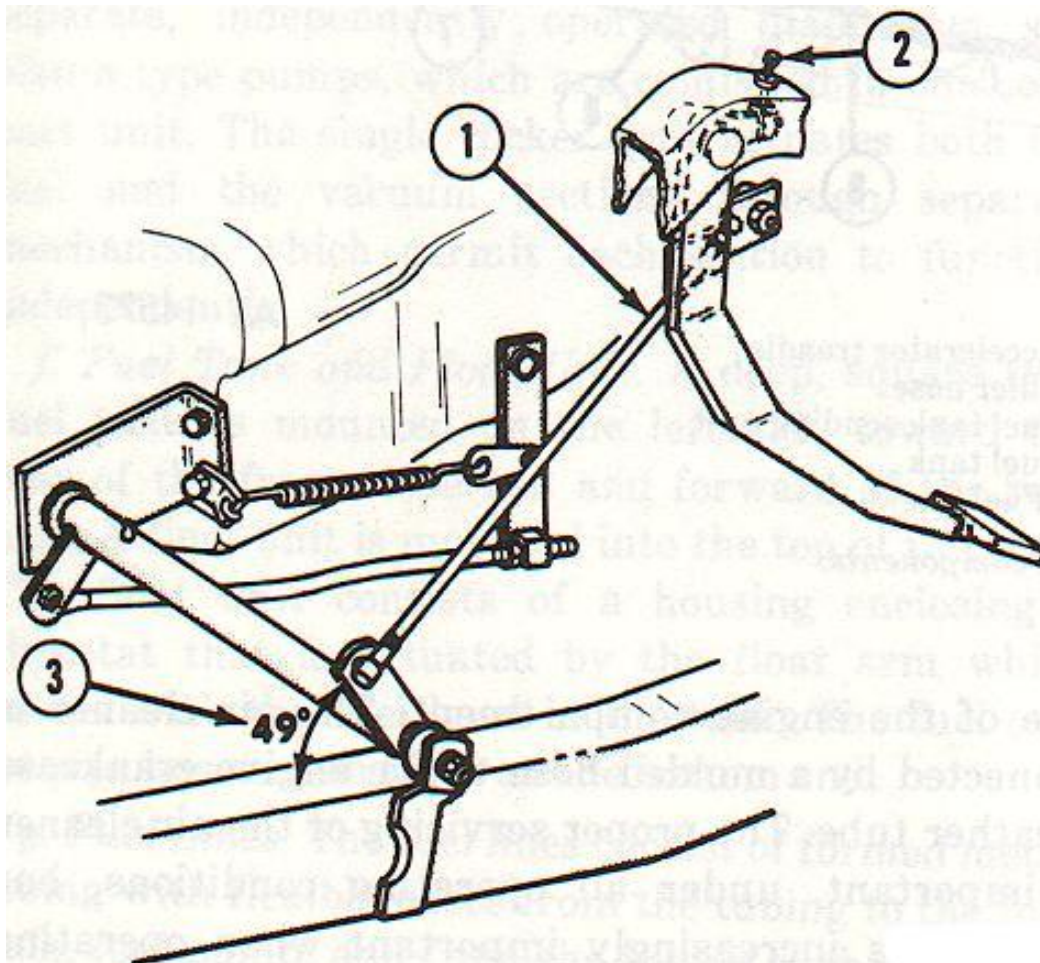

Figure 2-10. Clutch linkage and clutch pedal adjustments.
- b. With the clutch pedal positioned up against the adjusting bolt, adjust the length of the rod so that it can be connected to the pedal with a 49 angle maintained between the frame and cross shaft lever at the point indicated in figure 2-10.